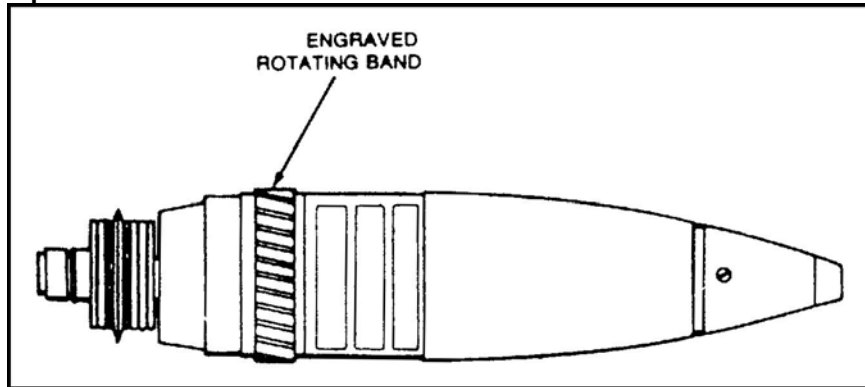

Figure 2. M329A2 HE round.
- e. When loading the 4.2-inch, M329A2 HE round, the engraved rotating band (Figure 2) must engage the lands and grooves of the barrel. To do this, insert the round until the engraved band reaches the lands and grooves. Rotate the round to the right (clockwise) until the engraved band engages the lands and grooves. Continue to turn the round clockwise while lowering the round until the shoulder of the round is in the barrel. This procedure is called "indexing the round."